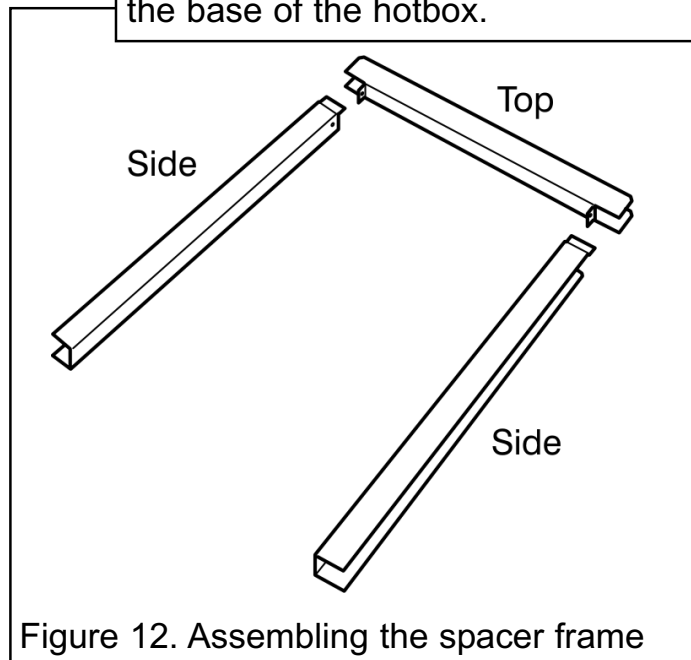

Figure 12. Assembling the spacer frame
8. Supplied with the fire is a spacer frame. This is made up of three separate pieces, a top and two sides. The three pieces are identified in figure 12.